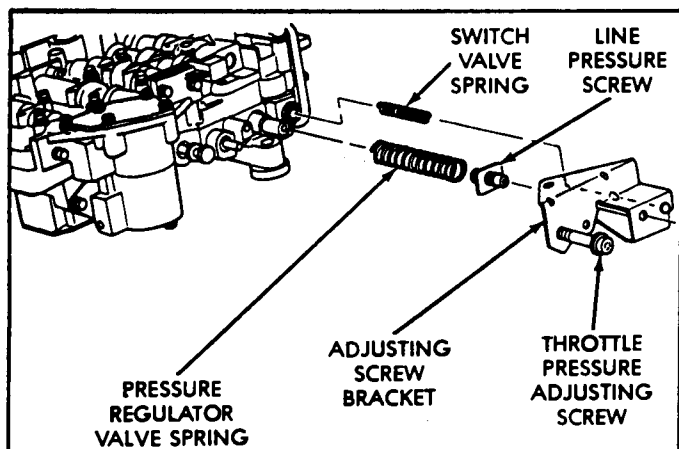

Figure 106
36. Install pressure regulator spring on the end of pressure regulator valve, as shown in Figure 106.
37. Install switch valve spring on tang at end of adjusting screw bracket (See Figure 106).
38. Position adjusting screw bracket onto valve body, aligning valve springs, and press bracket into place. Refer to Figure 106 and 107.